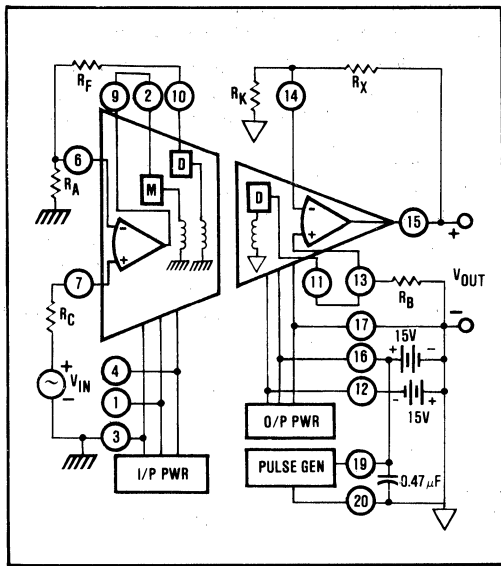

FIGURE 3. Power: Two-port, Dual Supply;
9. In configuration of Figure 3. Ripple frequency approximately 750kHz. Measurement bandwidth is 10MHz.
Figure 3 shows two-port isolation which uses an external bipolar supply with its common connected to the output stage ground (pin 17). One of the supplies (either + or - could be used) provides power to the pulse generator (pins 19 and 20). The same sort of configuration is possible with the external supplies connected to the input stage. With the connection shown, filtering at pins 12 and 16 is not required. In this configuration continuous isolation voltage rating is: 3500VDC between pins 3 and 17; not applicable between pins 17 and 19; 3500VDC between pins 3 and 19.
The signal path portion of Figure 3 demonstrates two additional gain configurations: gain in the output stage and noninverting gain in the input stage. The following equations apply:
Use the resistor values obtained in Steps 3, 4, 8 and 9, and connect the 3656 as shown in Figure 3.